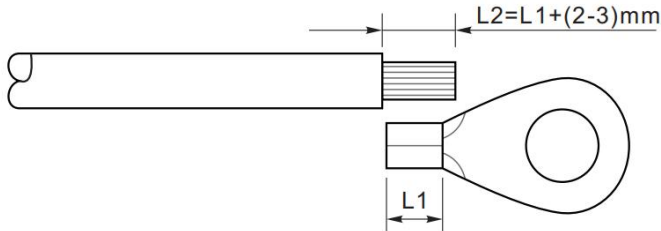

Figure 5-2 Grounding connection instruction (1)
Step 1: Remove the insulation layer with an appropriate length using a wire stripper shown as figure 5-2)